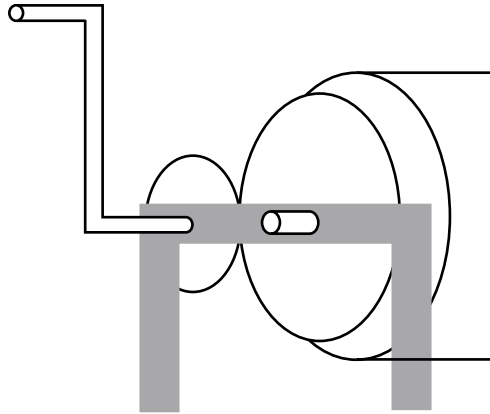

Figure 4
e. Mark on the roll drum handle diagram (Figure 4) the fulcrum (f), the load (l) and the effort (e).